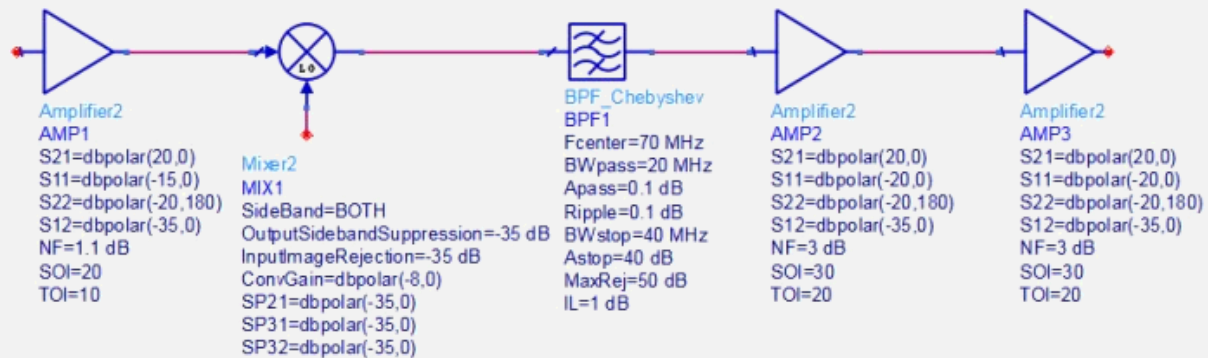

Figure 1. Initial Schematic
2. Place **Amp** and **Mixer2** from the **System-Amps & Mixers** component library palette menu. Set their characteristics as shown in Figure 1.
3. Place the **Chebyshev Bandpass Filter** component at the Mixer output from **FiltersBandpass** component library palette menu. Set the characteristics as shown in Figure 1.
- Once completed, the schematic will look similar to the one shown in Figure 1.